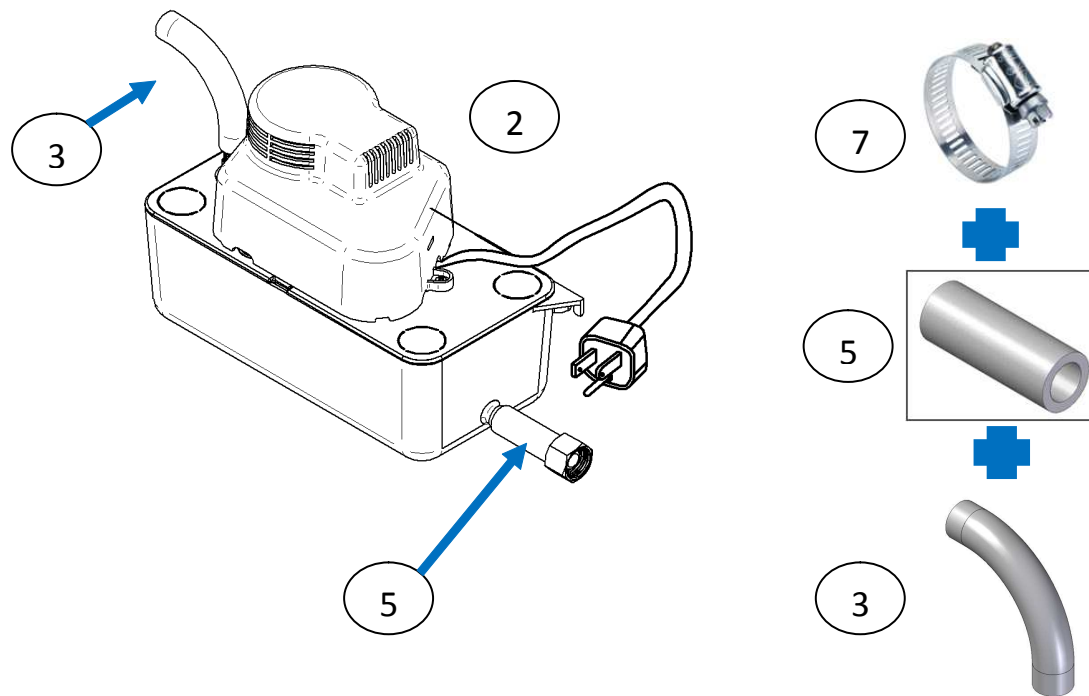

Fig. 2 – Pump mounting kit
- 1) Connect the other end of item 5 (1/2 inch inlet hose) to pump inlet (1/2 inch barbed fitting) and secure with hose clamp item 7 as in Fig. 2. If required cut the tube to the desired length.
- 2) Connect item 3 (3/8 inch discharge hose) to 3/8 inch pump discharge as shown in Fig.2.